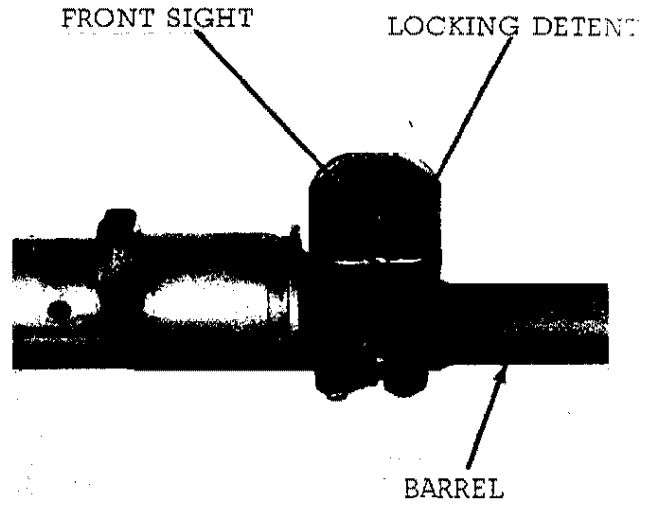

FIGURE 7. FRONT SIGHT
h. Front Sight. The elevation adjustment for zeroing the weapon is in the front sight base (figure 7) and adjustments are made by using the tip of a cartridge. To raise or lower the front sight post, depress the detent at the base of the front sight post and turn the post in the desired direction. To move the point of impact up, turn the sight post in the direction of the arrow and the word "UP" stamped on the base.